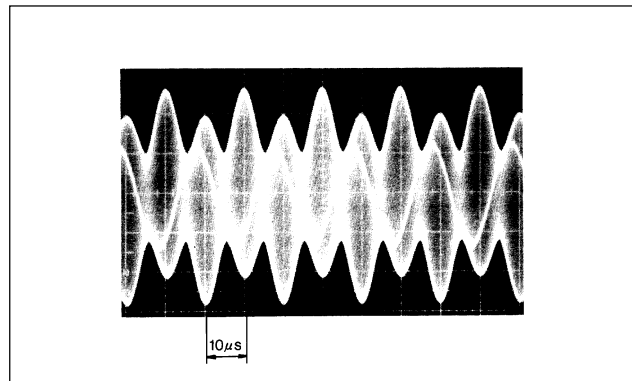
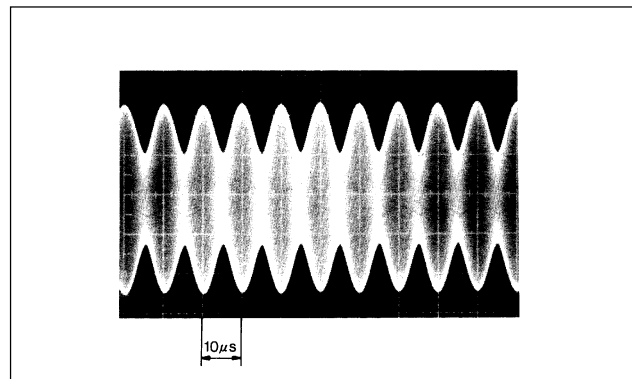

Fig. 4-7
Fig. 4-8
- ① Prepare the oscilloscope by setting the input coupled switching to AC with a horizontal sweep axis of $10\ \mu\text{s}/\text{div}$ and a vertical axis of $0.5\ \text{V}/\text{div}$, and connecting CH1 to the PM terminal. At this time, the trigger source should be taken from INT CH1.
- ② A sine wave appears in CH1. The phase of this sine wave moves in accordance with the scale movement, allowing the envelope ripple to be observed. First rotate the RV2 volume to set the sine wave amplitude to approximately $2\ \text{V}_p\text{-p}$. (This is called the gain adjustment.)
- ③ When the RV1 volume is rotated completely to the right (clockwise) and the scale is moved, the waveform shown in Fig. 4-7 appears. At this point, adjust the RV4 volume so that neighboring peaks are of the same height as shown in Fig. 4-8 (This is called the DC balance adjustment.) If the minimum PM signal amplitude falls to $0.5\ \text{V}_p\text{-p}$ or less, the alarm function may operate.
- ④ When the RV1 volume is rotated completely to the left (counter-clockwise) and the scale is moved, the waveform shown in Fig. 4-7 appears as in step ③ above. At this point, adjust the RV5 volume so that neighboring peaks are of the same height as shown in Fig. 4-8.